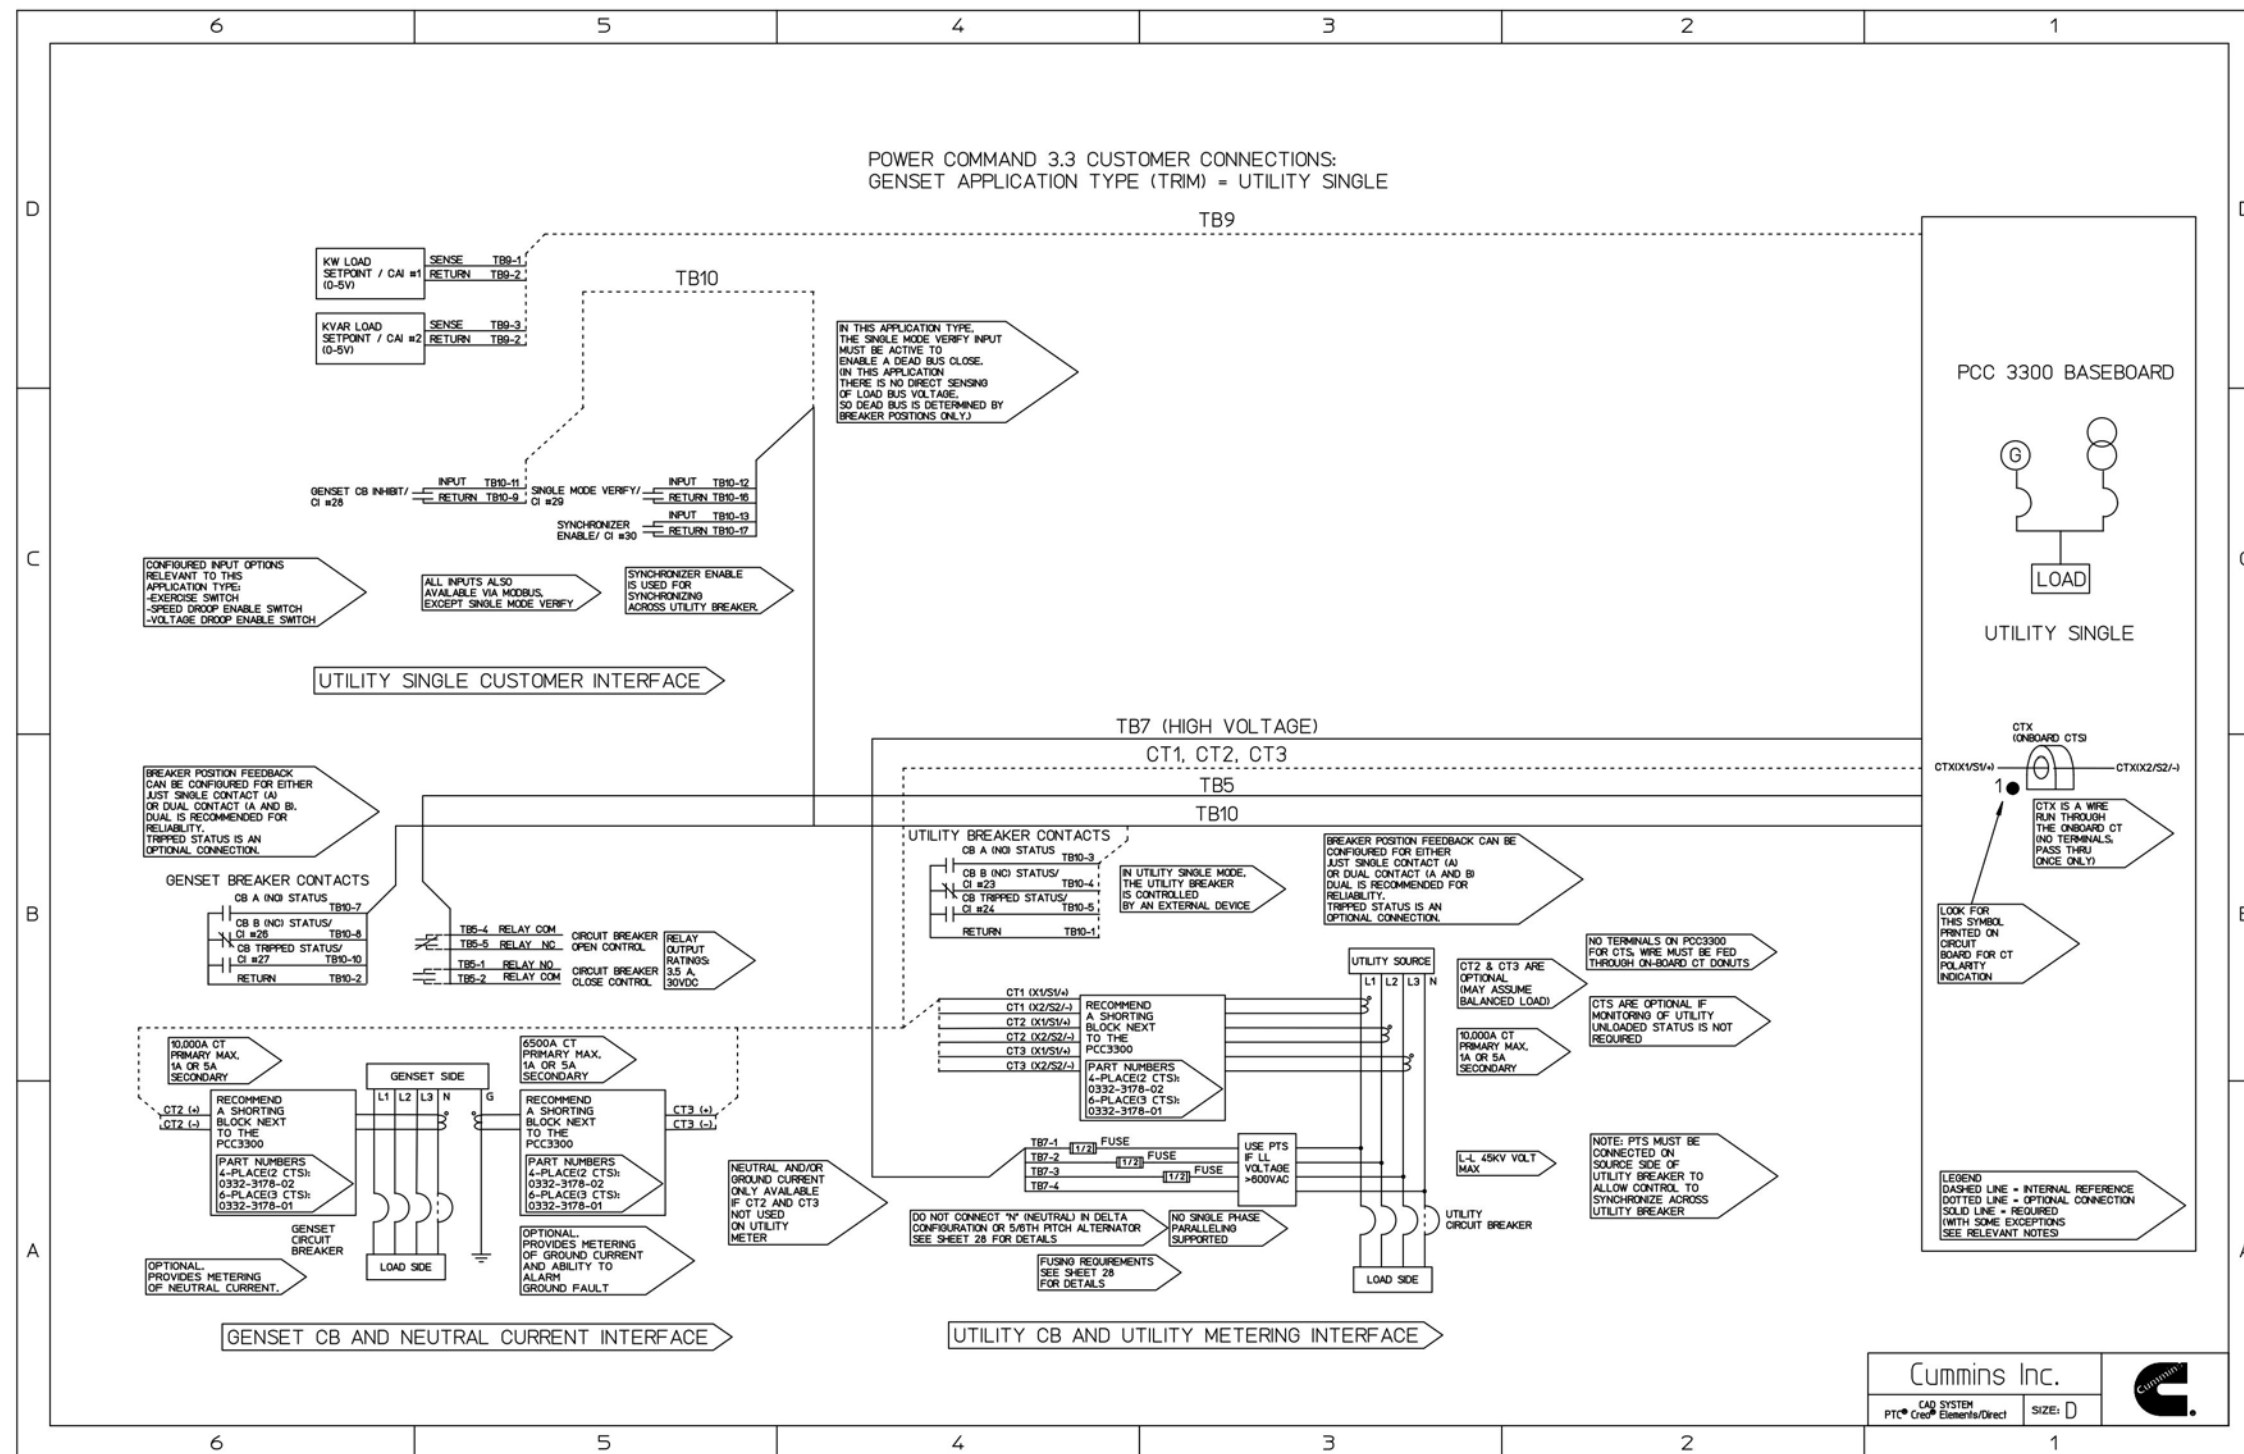

FIGURE 57. POWERCOMMAND 3.3 PARALLELING CONNECTIONS - UTILITY SINGLE
- Figure 57. PowerCommand 3.3 Paralleling Connections - Utility Single 120